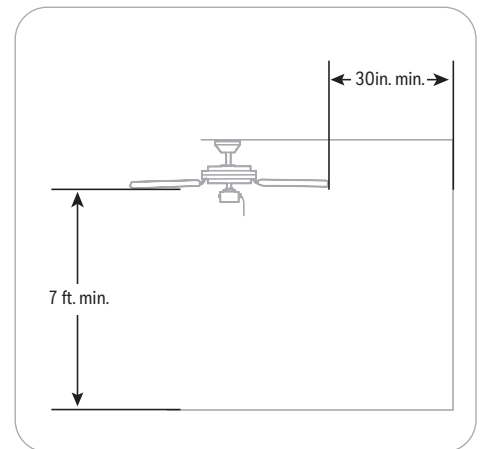

Figure 1.3
3. Choose a suitable location - Ensure the blades will be at least 30 inches from any obstructions. Also check the downrod length to ensure the blades will be at least 7 feet above the floor (Figure 1.3).